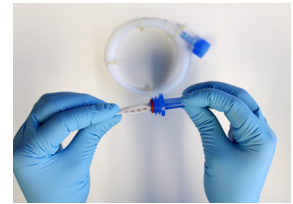

Figure 2
3. Insert it into the indicator capsule with the fold first. (Figure 2)